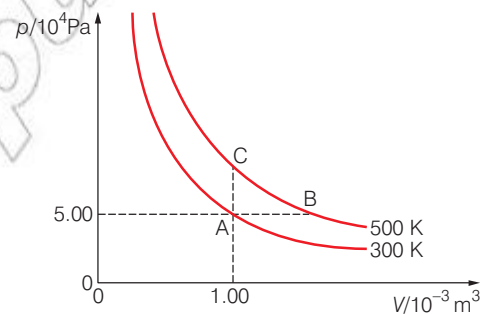

Figure 1.49
5. Figure 1.49 shows curves (not to scale) relating pressure, p , and volume, V , for a fixed mass of an ideal monatomic gas at 300 K and 500 K. The gas is in a container fitted with a piston which can move with negligible friction.